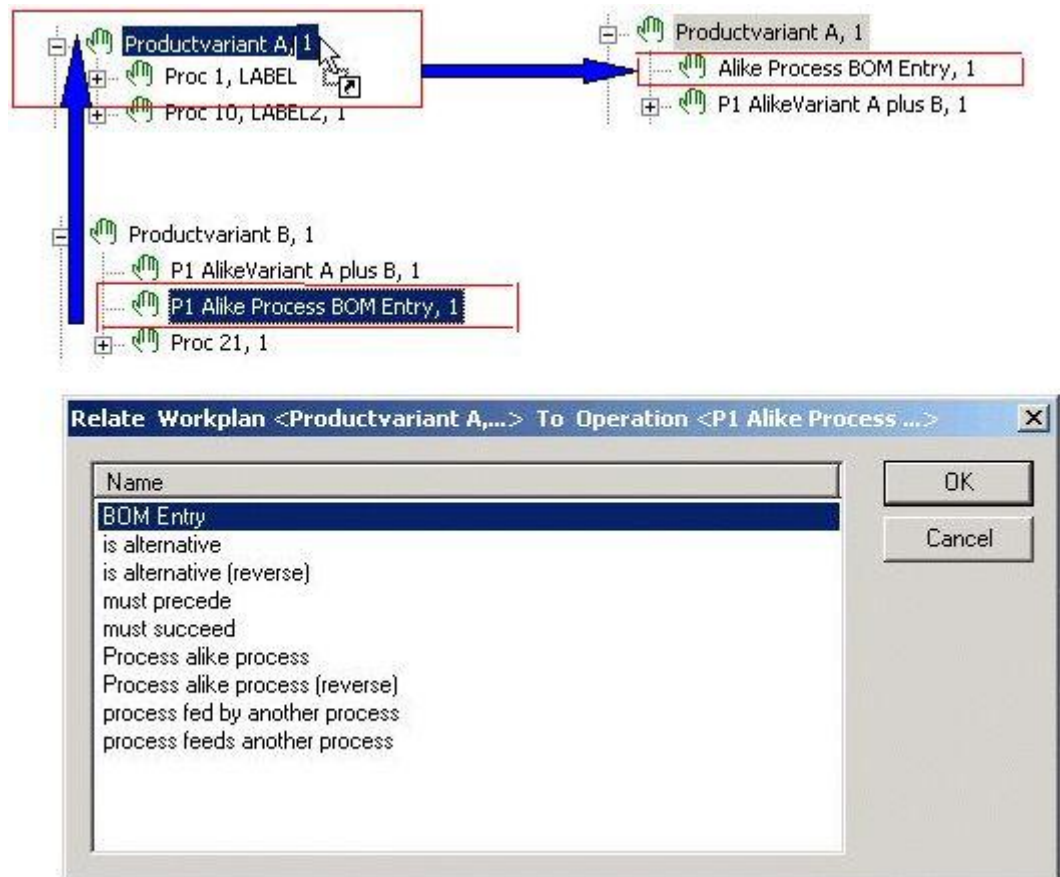

Figure 205: Marking Processes of the same Type via BOM Entry
- 4) Click the OK button to confirm. The process is added to this process graph as a reference. *Please refer to the Figure 205.*